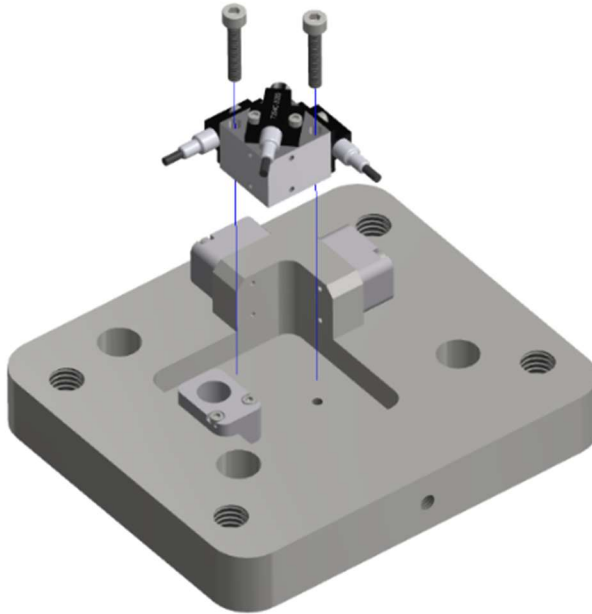

Figure 8-49. Secure to Upper Torso to Pelvis Adaptor Plate
- 8.3.19 Secure the Tri-Pack Block (SA572-S80M) to the Upper Torso to Pelvis Adaptor Plate (474-4004) with two M2.5 X 0.45 X 14 SHCS (Figure 8-49). Strain relieve the three ARS wires together.